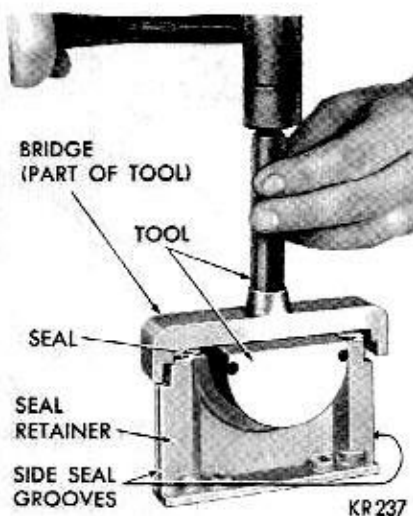

Fig. 34—Installing Rear Main Bearing Lower Oil Seal
- (1) Install a new seal in seal retainer so ends protrude (Fig. 34).